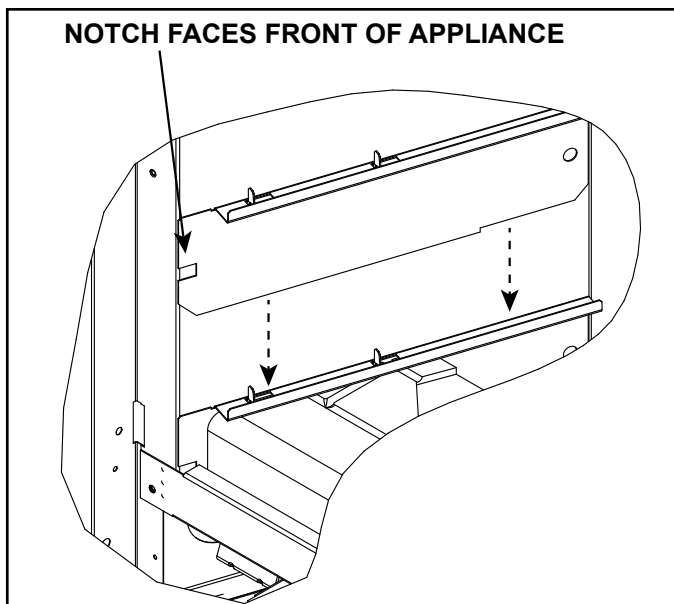

Figure 3. Install Lower Glass Bracket (Left Side Shown)
4. Remove lower glass brackets from packaging and bend “up” hand bend features. See Figure 3. Install left and right lower glass brackets by installing them between the outer edges of the left and right hearth pieces with the notch facing the front of the appliance. These pieces will fit tightly between the hearth sides and the firebox. See Figure 3.